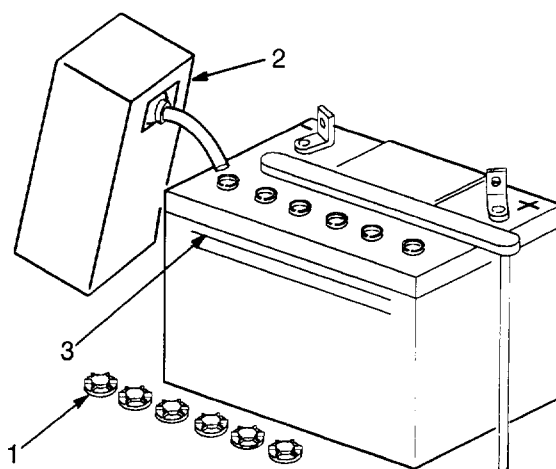

Figure 4
2. Unscrew six filler caps from the battery. Slowly pour electrolyte into each cell until the level is up to the "UPPER" line on the battery case (Fig. 4).
5. Slowly pour electrolyte into each cell until the level is once again up to the "UPPER" line on the battery case. Now install all the filler caps (Fig. 4).